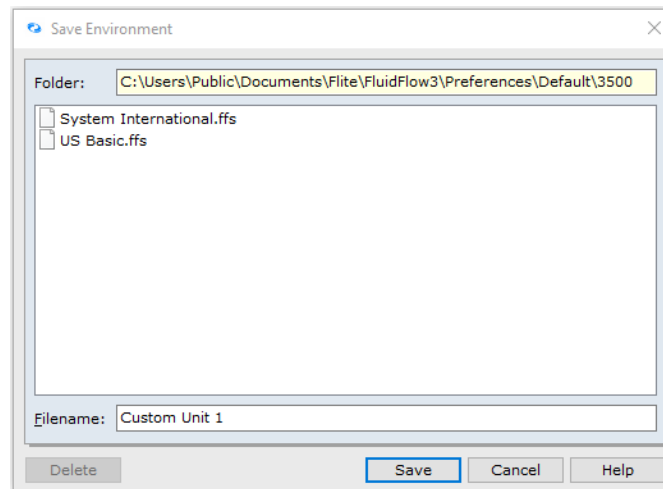

Figure 27: Modified Save Environment Dialog Box.
26. On the *Filename:* section type **Custom Unit 1** and click Save (Figure 27).